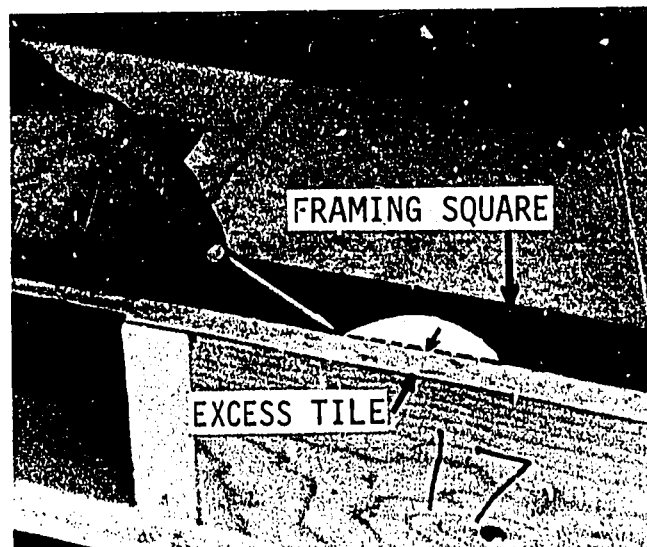

Fig. 63-1. Marking Tile to Fit Floor
4. If the tiles extend beyond the floor edge, mark them as shown in Fig. 63-1. Cut the tiles on the marked line with the snips or a utility knife.